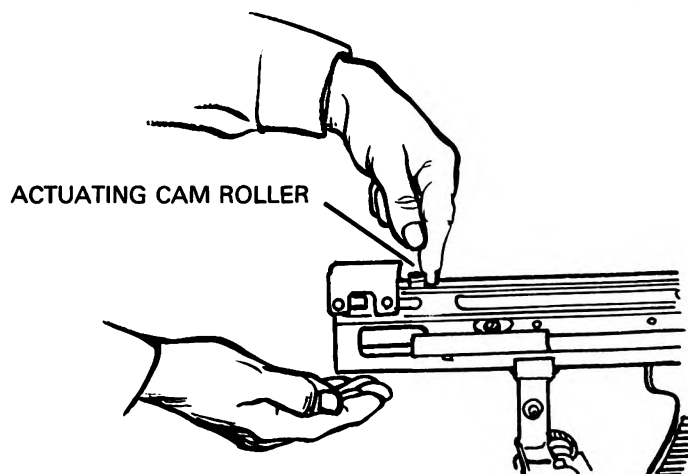

Figure 5. Pulling on cam roller.
(4) Pull the driving spring guide and spring from the receiver and separate them.
(5) With the left hand grasp the pistol grip and pull the cocking handle to the rear until the bolt is separated from the barrel socket. Continue to pull the operating rod and bolt to the rear by pulling on the cam roller (figure 5).